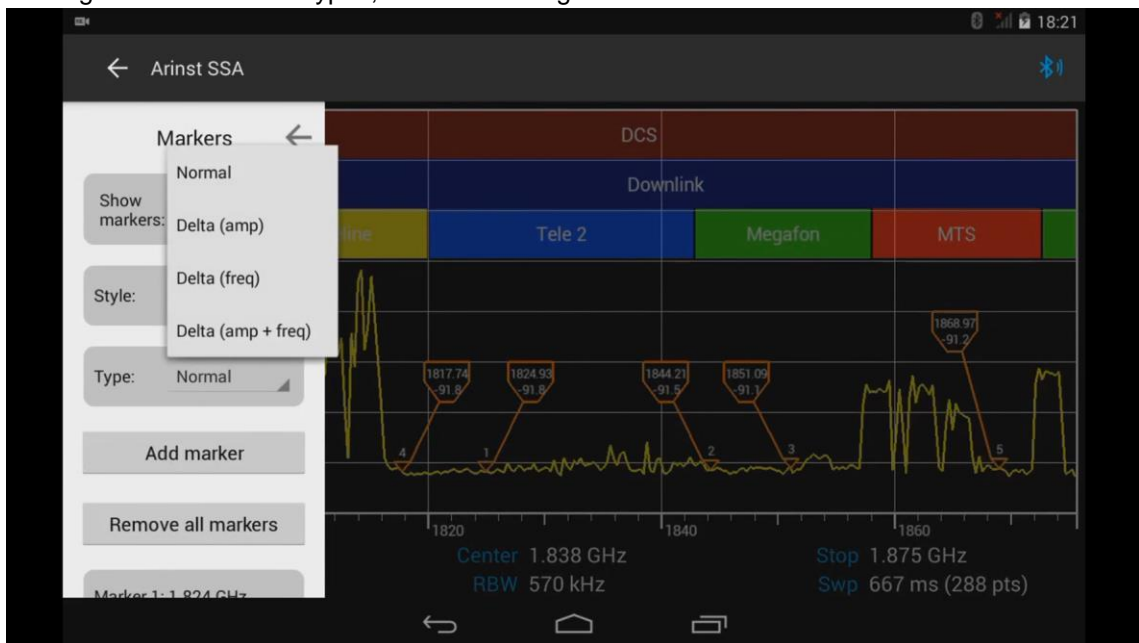

Figure 44 – Selecting the type of marker measurement signal
8.7.7. To select one of four types of marker measurements of a signal, enter the **Type** menu. Select one of the signal measurement types, as shown in Figure 44.